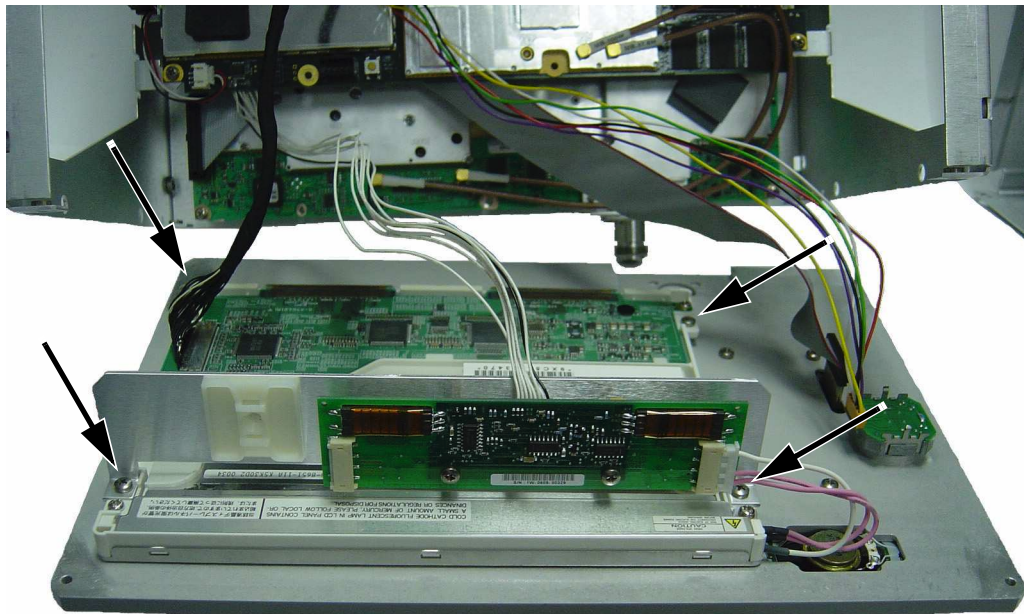

Figure 4-24. Front Panel – Interior Connections
3. Remove the 2 screws that attach the lower edge of the LCD to the front panel (refer to Figure 4-24).